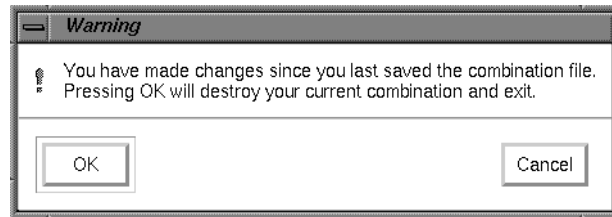

Figure D-9 Exit Warning Dialog Box
12. Click *OK* when the Warning dialog box appears (see Figure D-9).